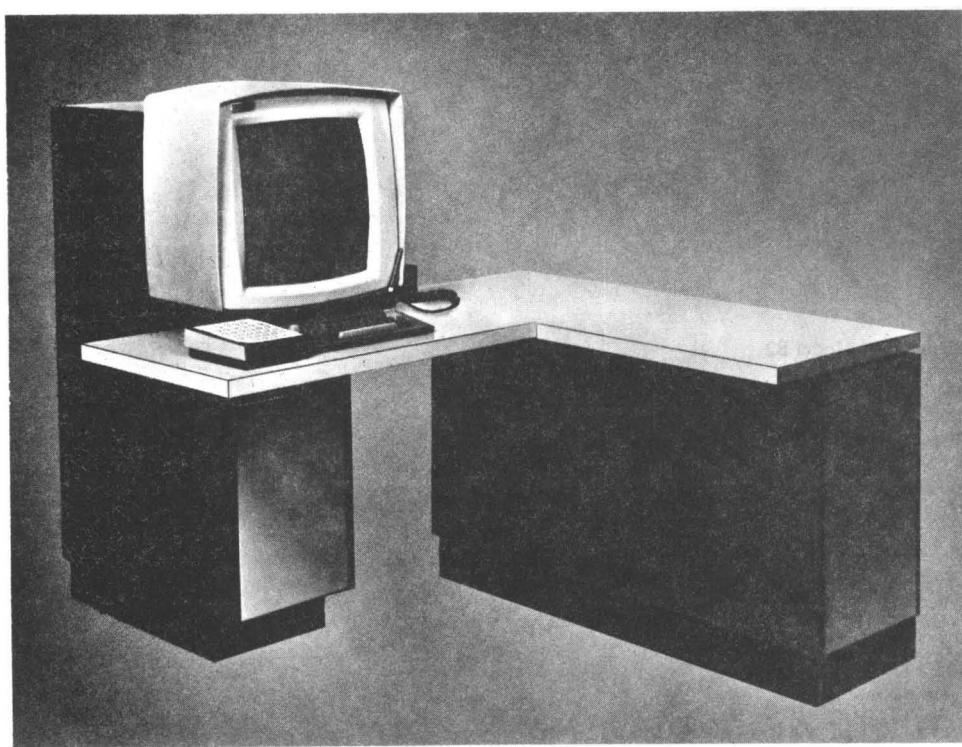
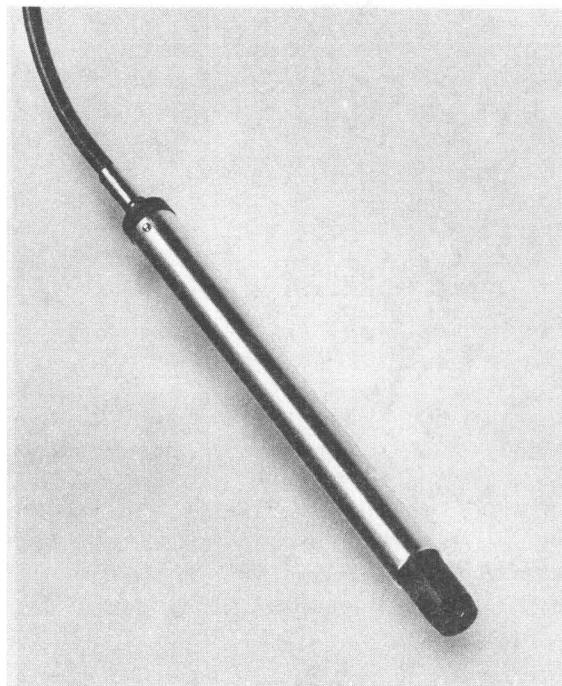

Figure 7-17. IBM 2250 Display Unit
Figure 7-20. Fiber Optics Light Pen
The IBM 2250 Display Unit (Figures 7-17 and 7-18) provides high-speed visual communication between the System/370 and its user. Tables, graphs, charts and alphanumeric data are displayed within the 12-inch square central area on the face of a 21-inch cathode ray tube (Figure 7-19). Keyboards and a light pen (Figure 7-20) supply the means for entry and change of computer information.
*Light Pen* (Figure 7-20), a standard feature for the Model 3, is a pen-like device that enables the operator to identify to the program a particular point, line, or character in the displayed image. The operator moves the pen point to the part of the image he wants to identify; the photo-detector associated with the pen, sensing light at that point, generates a signal for the program. The light pen can be used alone or in conjunction with a keyboard to rearrange or delete information, or to add lines from a base point already lighted by the CRT beam.
In the fiber optics light pen (Figure 7-20), light is transmitted from the screen back to a sensing device in the console through a flexible connection made of glass fibers. Also, instead of being used in conjunction with a foot switch, this new light pen has a tip switch that is operated by depressing the pen tip on the screen.